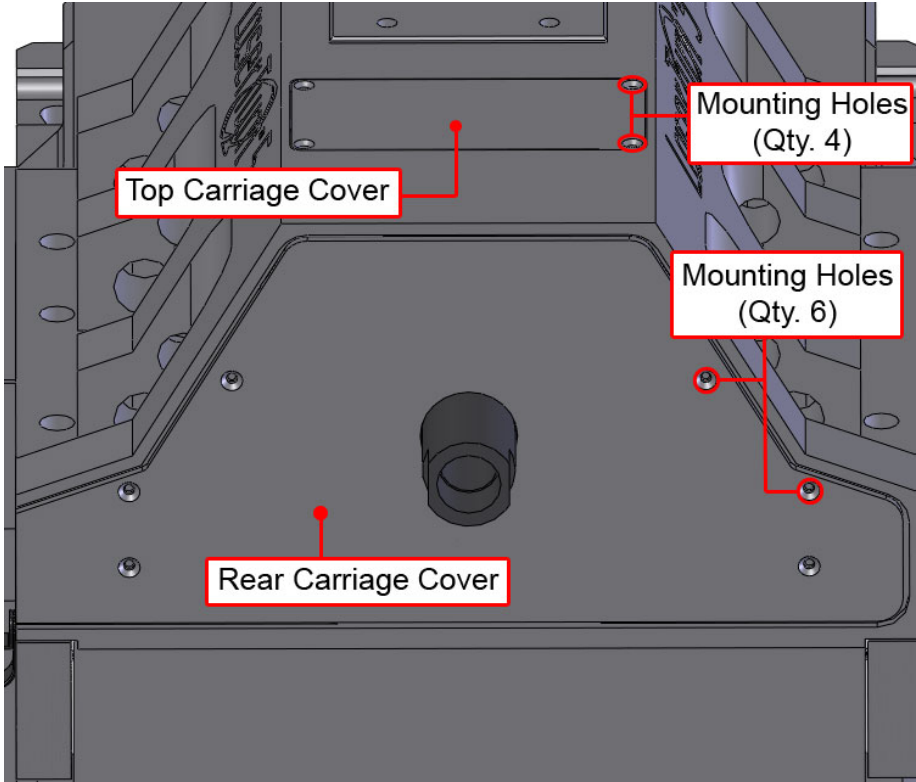

Figure 4-9: Carriage Cover Removal
Step 2: To access the rotary union assembly, remove the rear carriage cover and top carriage cover located on the backside of the carriage (see Figure 4-9).
Step 3: Remove the six seal assembly end cap mounting screws from the rear end of the rotary union (see Figure 4-9).